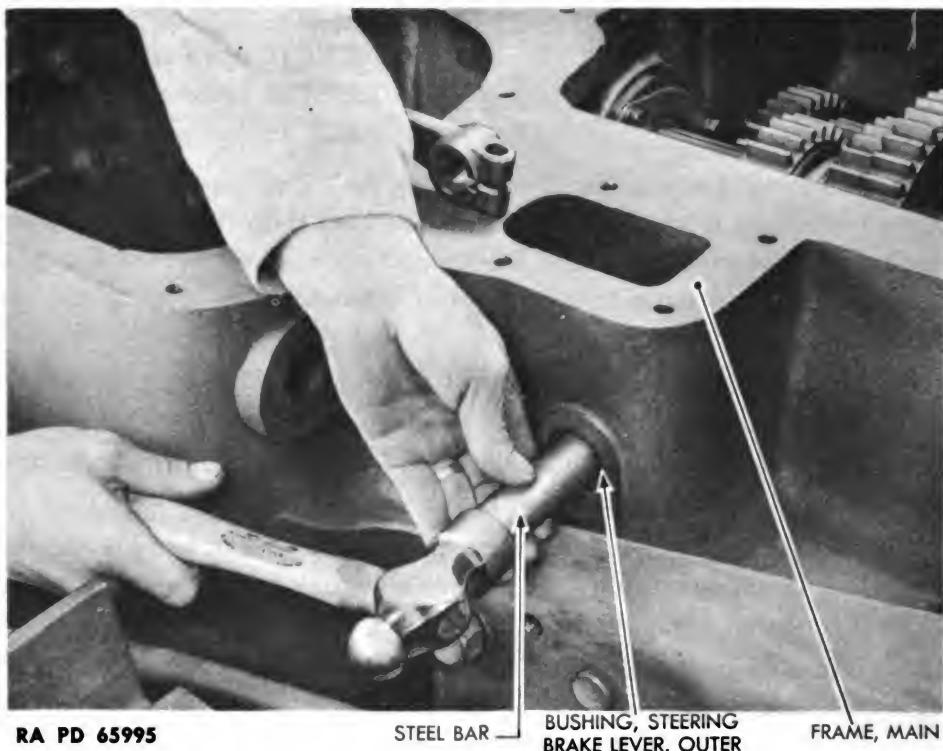

Figure 117 — Steering Brake Lever Outer Bushing Removal
(4) REMOVE RIGHT STEERING BRAKE LEVER OUTER BUSHING (fig. 117).
- (1) INSTALL RIGHT STEERING BRAKE LEVER OUTER BUSHING (fig. 117).
- (2) INSTALL LEFT STEERING BRAKE LEVER OUTER BUSHING (fig. 117).